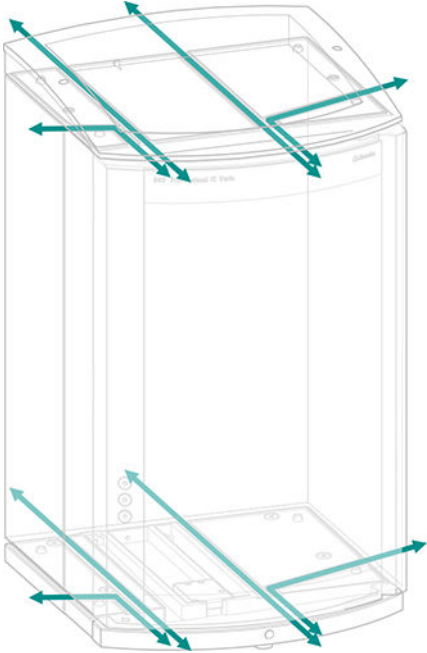

Figure 5 Ducts for capillaries
- Ducts between the instrument and the base tray as well as between the instrument and the bottle holder (see figure 5, page 14)